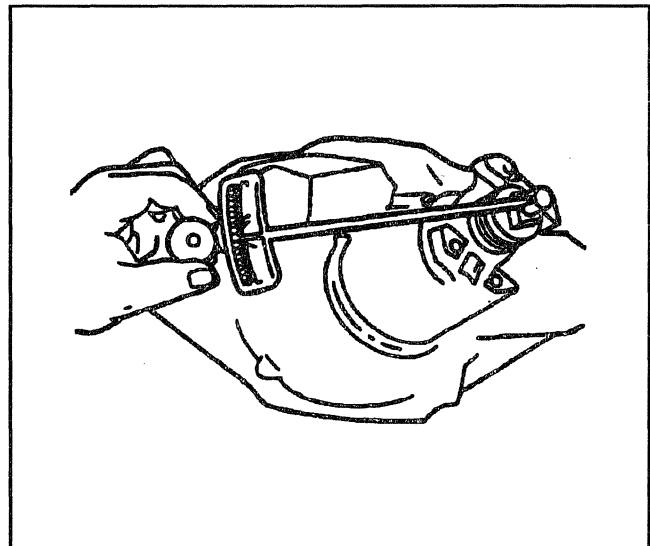

Figure 17—Checking Pinion Bearing Preload
- B. Remove J 8614-01. Check the pinion preload by rotating the pinion. Preload should be at or below 2.3 to 2.8 N·m (20 to 25 lb. in.) on new bearings, or 1.1 to 1.7 N·m (10 to 15 lb. in.) for used bearings (Figure 17).